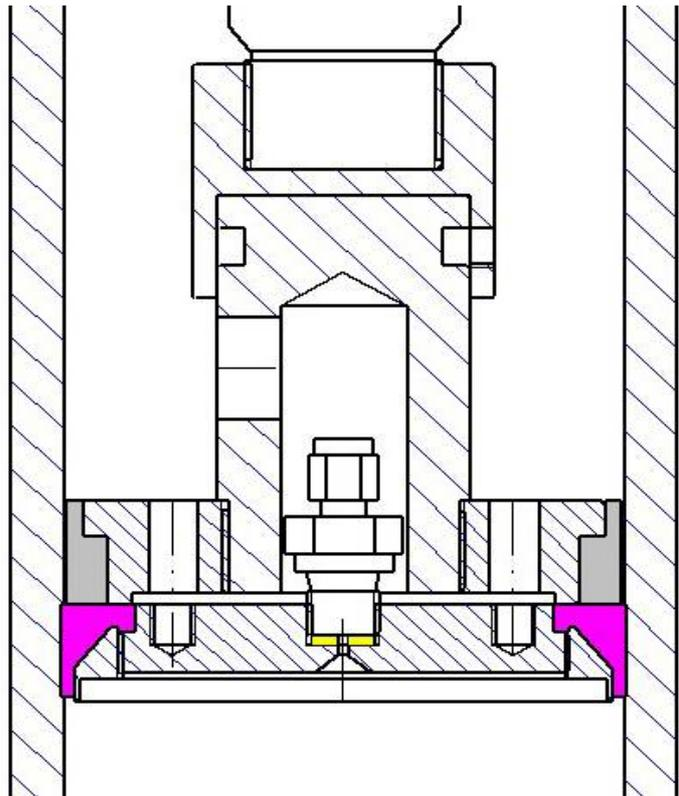

Fig. 2 Upper piston cross section
The upper and bottom parts of the column are closed by stainless steel pistons with UHMWPE and polypropylene (PP) made seals. Each piston consist of five parts (see Fig. 2, 3, 4, 5):